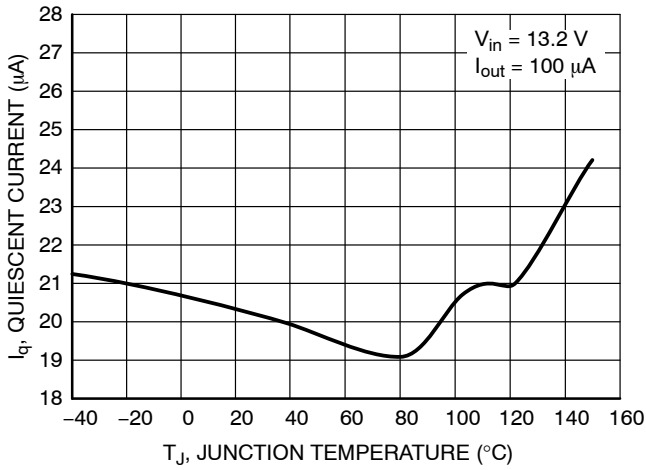
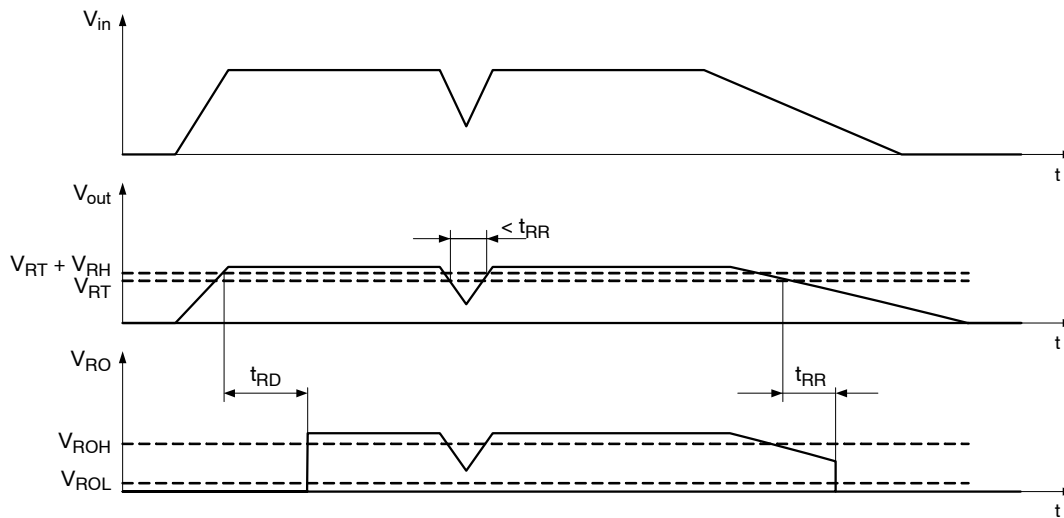

Figure 4. Quiescent Current vs. Temperature
Figure 21. Reset Function and Timing Diagram
| Reset Reaction Time (see Figure 21) | | t_{RR} | 16 | 25 | 38 | μs |
The NCV8770 regulator is self-protected with internal thermal shutdown and internal current limit. Typical characteristics are shown in Figure 4 to Figure 21.
A reset signal is provided on the Reset Output (RO) pin to provide feedback to the microprocessor of an out of regulation condition. The timing diagram of reset function is shown in Figure 21. This is in the form of a logic signal on RO. Output voltage conditions below the RESET threshold cause RO to go low. The RO integrity is maintained down to V_{out} = 1.0 V. For 5 V voltage option, the Reset Output (RO) circuitry includes internal pull-up (30 kΩ) connected to the output (V_{out}) No external pull-up is necessary.